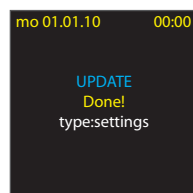
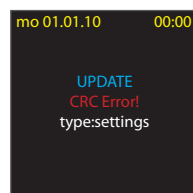

fig. 10
fig. 11
7. Upon successful transmission, the check sum total of CRC is recalculated. Data compliance is indicated by means of message „Done!“ (Figure 10). In case of data incompliance the report „CRC Error“ occurs (figure 11) and the whole transmission must be repeated from point 5.